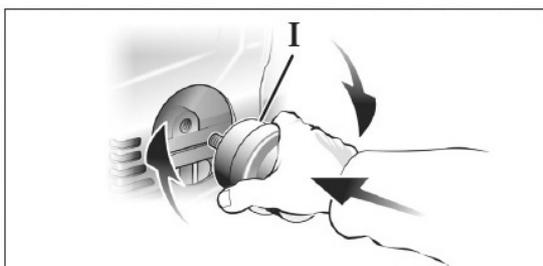

Fig. 5: Mounting the air filter
Step 1: remove the transport plug with a screwdriver or similar. (Fig. 5) and screw the air filter (Pos. I, Fig. 5B) to the unit.